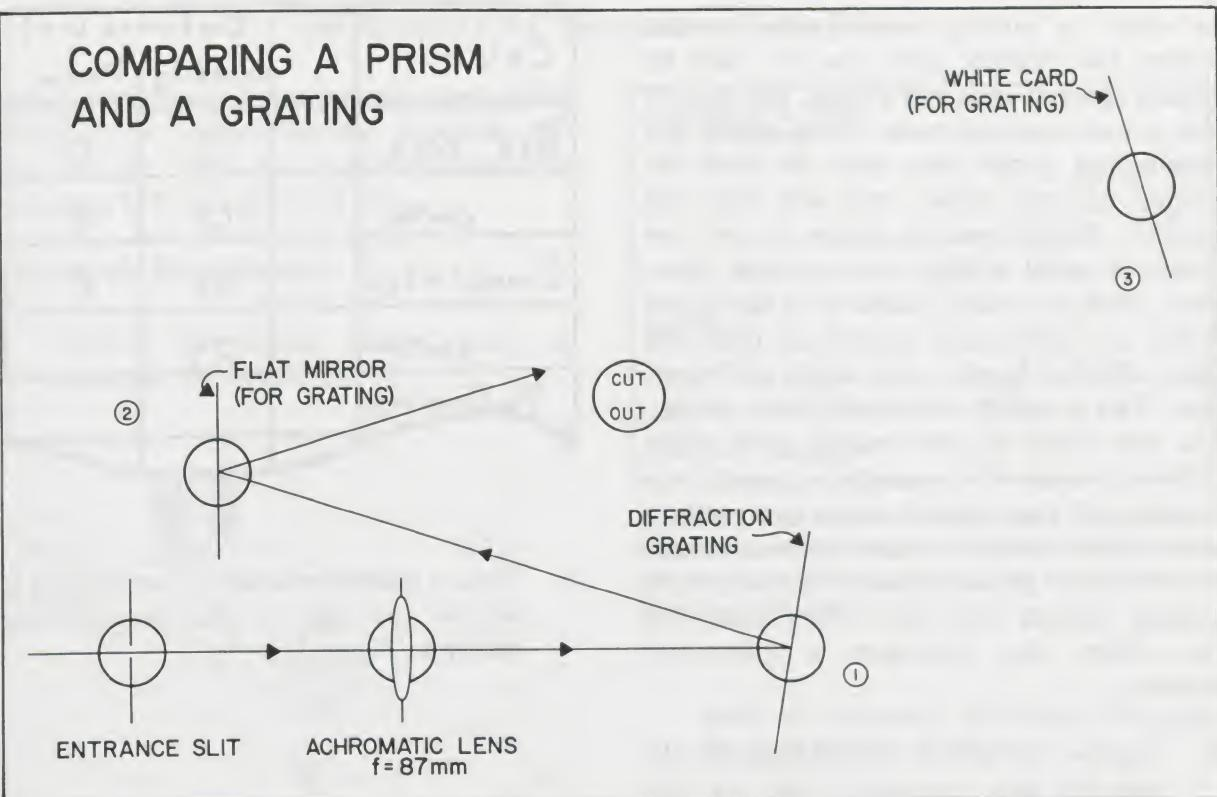

Figure 30. The layout showing the positions of components for the grating spectrum.
1. Place the paper template titled COMPARING A PRISM AND A GRATING securely on the base and centered on the center hole (see Figure 30).